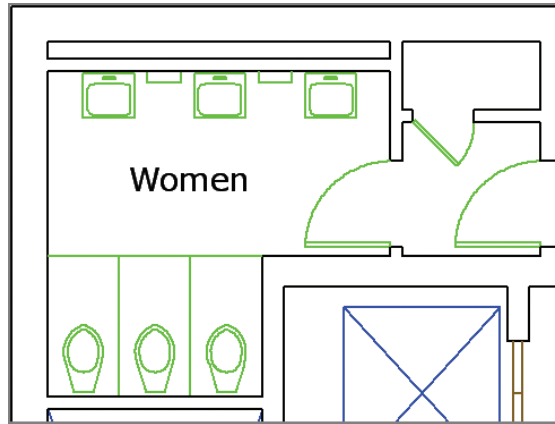

FIGURE 9.29 Redesigning the Women's washroom for three sinks
- Redesign the Women's washroom so that it has three sinks, as shown in Figure 9.29.